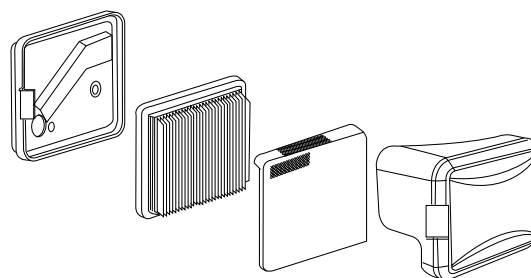

Figure 10
3. Inspect air cleaner (see Figure 10). Clean or replace as needed.